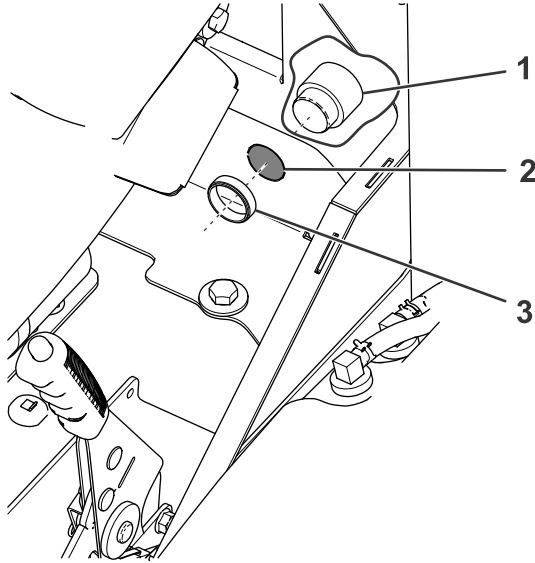

Figure 4
1. Remove the knockout from the panel behind the parking brake (Figure 4).
2. Remove the plastic nut from the alarm and use it to secure the alarm through the opening left by the knockout (Figure 4).